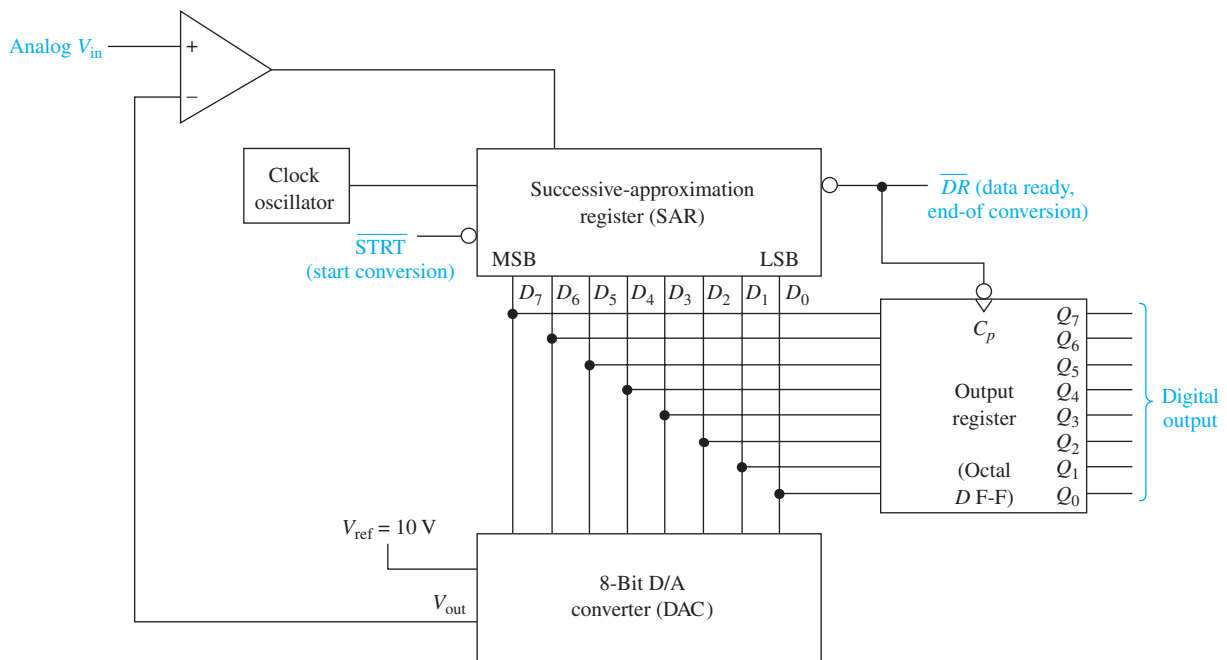

Figure 13 Simplified SAR A/D converter.
Other methods of A/D conversion employ *up/down-counters* and *integrating slope converters* to track the analog input, but the method used in most modern IC ADCs is called **successive approximation**. This converter circuit is similar to the counterramp ADC circuit, except that the method of narrowing in on the unknown analog input voltage is much improved. Instead of counting up from 0 and comparing the DAC output each step of the way, a successive-approximation register (SAR) is used in place of the counter (see Figure 13).
In Figure 13, the conversion is started by dropping the \overline{STRT} line LOW. Then the SAR first tries a HIGH on the MSB (D_7) line to the DAC. (Remember, D_7 will cause the DAC to output half of its full-scale output.) If the DAC output is then *higher* than the unknown analog input voltage, the SAR returns the MSB LOW. If the DAC output was still *lower* than the unknown analog input voltage, the SAR leaves the MSB HIGH.
Show the timing waveforms that would occur in the successive approximation ADC of Figure 13 when converting the analog voltage of 6.84 V to 8-bit binary, assuming that the full-scale input voltage to the DAC is 10 V ($V_{ref} = 10$ V).
17. The SAR ADC in Figure 13 starts making a conversion when _____ goes LOW and signifies that the conversion is complete when _____ goes LOW.